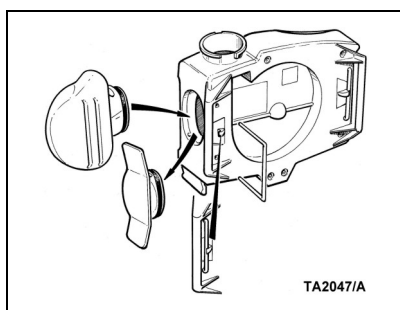

Fig. 2
1. Configure the blower by adding or removing filter adaptors (see Fig. 2).